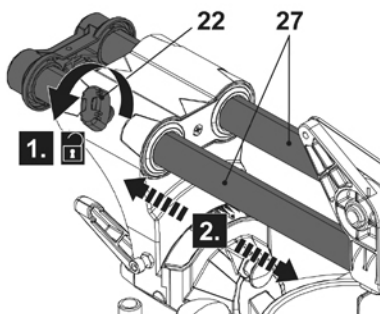

Fig. 10
- > Loosen the slide locking knob (22) (Fig. 10, step 1) to allow the cutting head to slide freely (step 2) on the sliding bar (27).